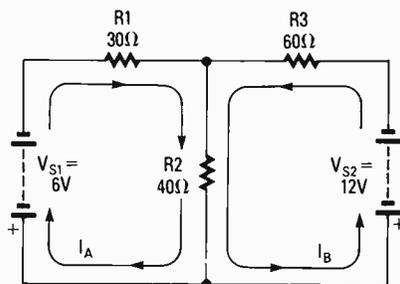

Fig. 5. Using the parts values and loops supplied you must solve for the currents through each component.
9. To understand the process, it is best that you do go through an example yourself. It's a bit of work, but very satisfying and revealing. Try to solve for the currents in Fig. 5. (The loops have already been selected for you, so your solution should be similar to the one provided in the answers to the problems.